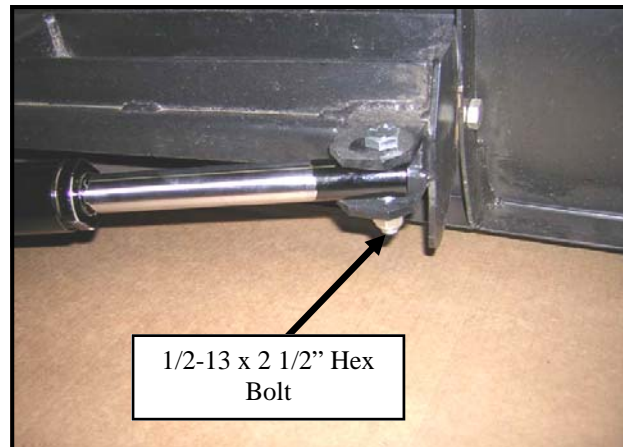

Fig. 14.2 Angle Cylinder
- 14.3 Attach the piston end of the angle cylinders between the brackets at the outer ends of the back side of the plow trip frame using 1/2-13 x 2 1/2" bolts. Fasten and tighten using 1/2-13 lock nuts. See Fig. 14.2. (Do not over tighten, 1-3 threads should be showing past nut)